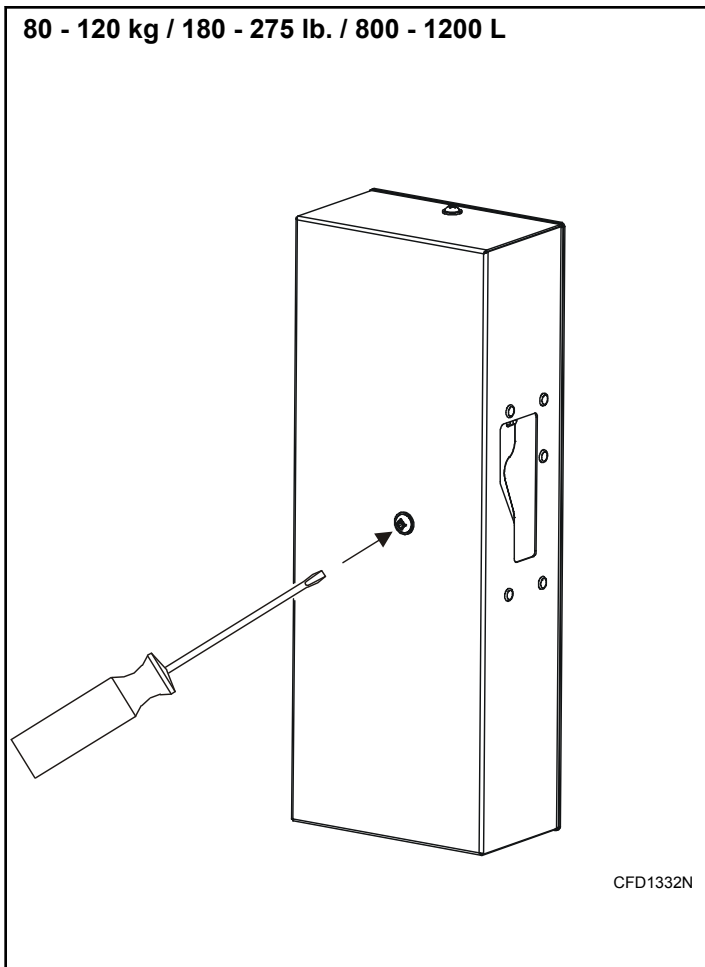

Figure 74
3. For 80 - 120 kg / 180 - 275 lb. / 800 - 1200 L Models, unscrew the bolt in the lock cover. Insert a screwdriver into the hole in the lock cover and push softly. Refer to *Figure 74* .